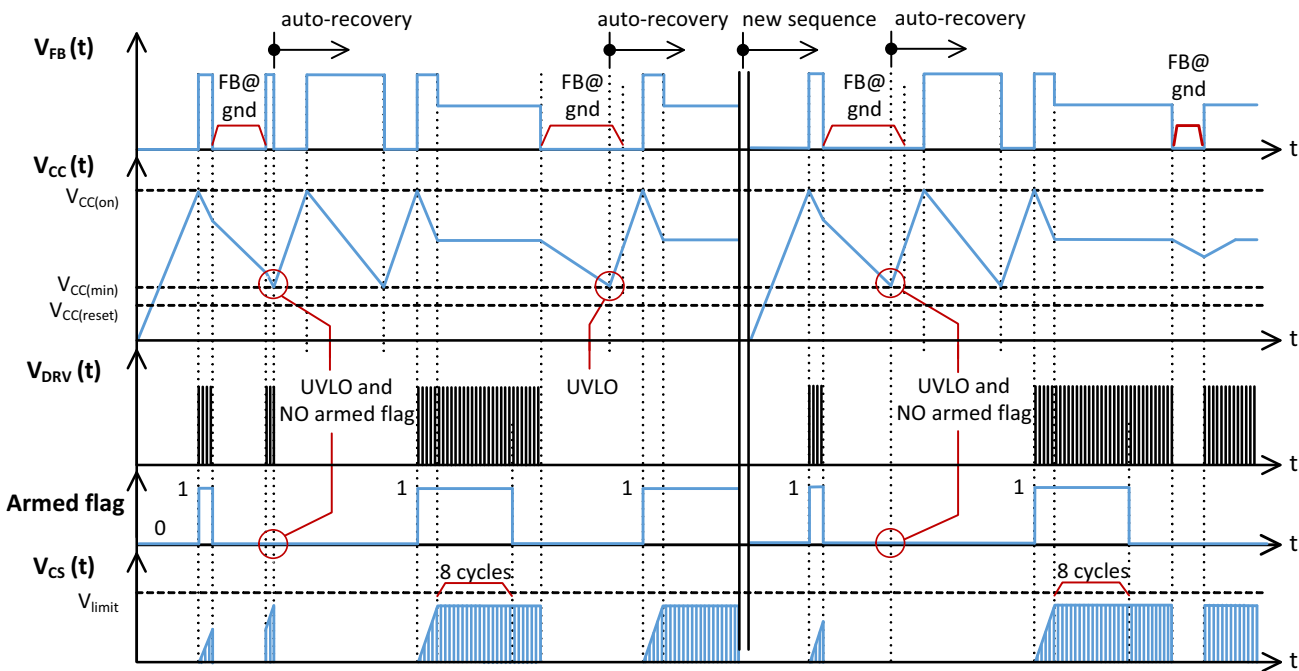

Figure 55. The controller behaviour during start-up sequence interrupted by grounded FB pin.
– this is the second armed flag cancelation condition. The Figure 55 shows the cases of interrupted start-up sequence by grounded FB pin.